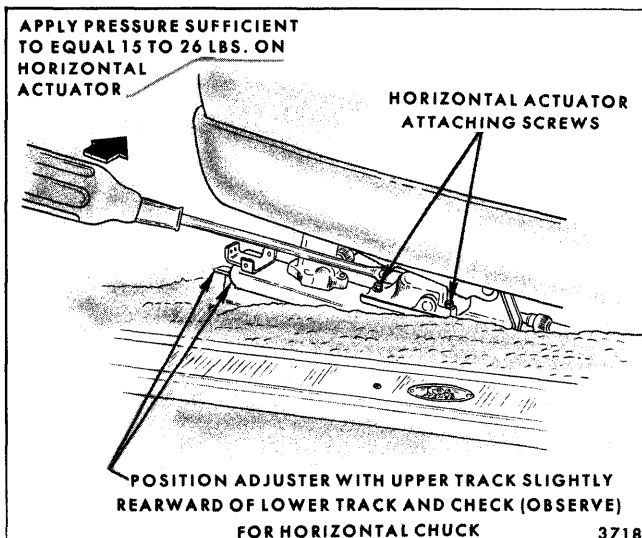

Fig. 9-2-Horizontal Actuator Adjustment - Power Six-Way Seat
2. Loosen horizontal actuator attaching screws (see Fig. 9-2). Using a large screwdriver, inserted as shown in Figure 9-2, apply outward pressure on horizontal actuator (sufficient to equal 15 to 25 pounds on horizontal actuator) and at the same time energize horizontal switch to move